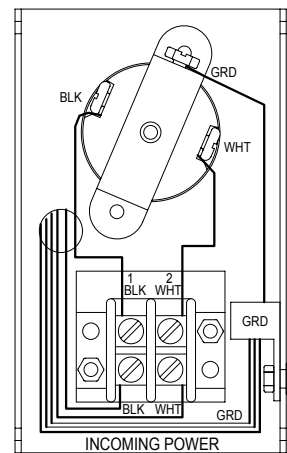

Figure 5
2. Push the black and white alarm conductors through the small hole in the upper right hand portion of the receptacle/terminal mounting plate and connect to terminals (1) and (2) on front side of the terminal block (See Fig. 5).